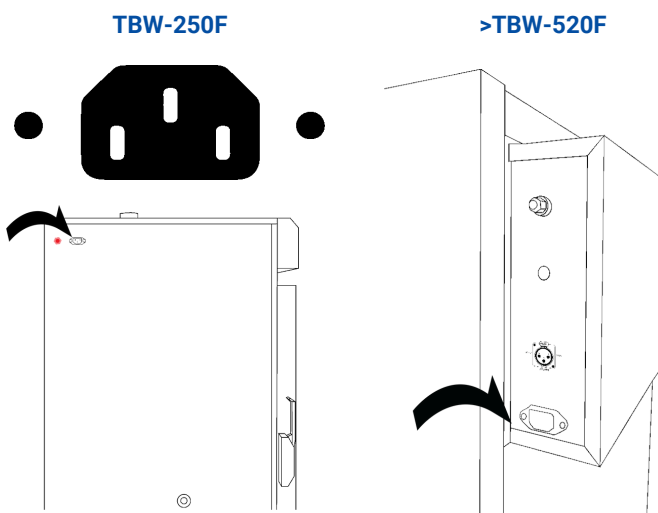

Fig 2. 10 amp male IEC socket
- On the blanket warmer itself is a 10 amp male IEC socket. **(Fig 2)**